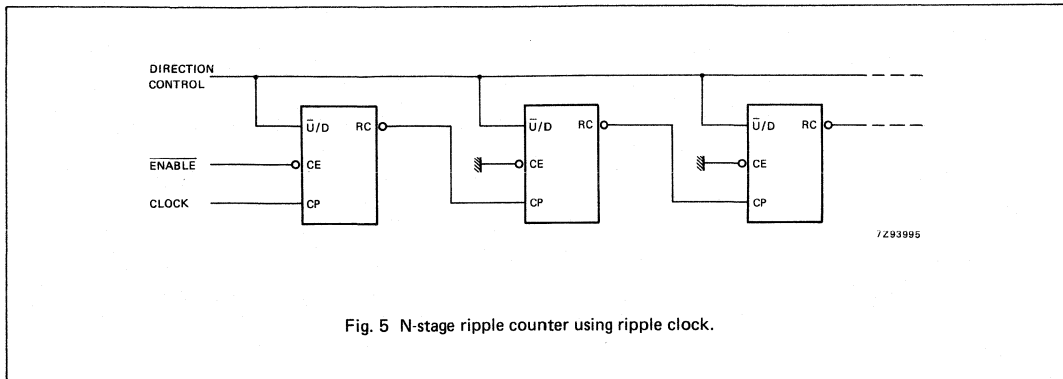

Fig. 5 N-stage ripple counter using ripple clock.
Overflow/underflow indications are provided by two types of outputs, the terminal count (TC) and ripple clock (\overline{RC}). The TC output is normally LOW and goes HIGH when a circuit reaches zero in the count-down mode or reaches "9" in the count-up-mode. The TC output will remain HIGH until a state change occurs, either by counting or presetting, or until U/D is changed. Do not use the TC output as a clock signal because it is subject to decoding spikes. The TC signal is used internally to enable the \overline{RC} output. When TC is HIGH and \overline{CE} is LOW, the \overline{RC} output follows the clock pulse (CP). This feature simplifies the design of multistage counters as shown in Figs 5 and 6.
In Fig. 5, each \overline{RC} output is used as the clock input to the next higher stage. It is only necessary to inhibit the first stage to prevent counting in all stages, since a HIGH on \overline{CE} inhibits the RC output pulse as indicated in the function table. The timing skew between state changes in the first and last stages is represented by the cumulative delay of the clock as it ripples through the preceding stages. This can be a disadvantage of this configuration in some applications.
In Fig. 7, the configuration shown avoids ripple delays and their associated restrictions. Combining the TC signals from all the preceding stages forms the \overline{CE} input for a given stage. An enable must be included in each carry gate in order to inhibit counting. The TC output of a given stage is not affected by its own \overline{CE} signal therefore the simple inhibit scheme of Figs 5 and 6 does not apply.